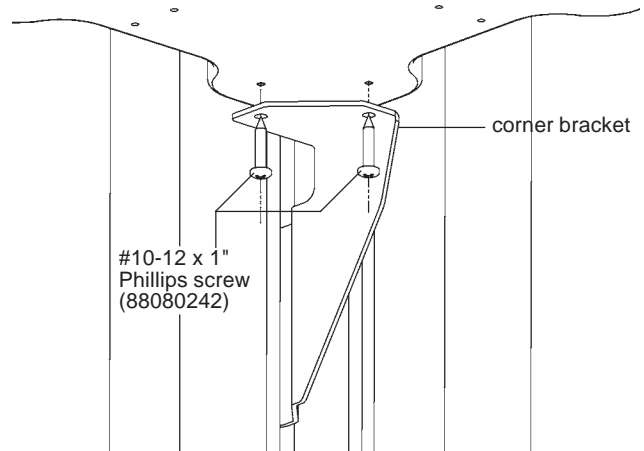

Figure 3
7. Install two #10-12 x 1" Phillips screws into the underside of the corner support to fasten it to the surface. (Figure 3)